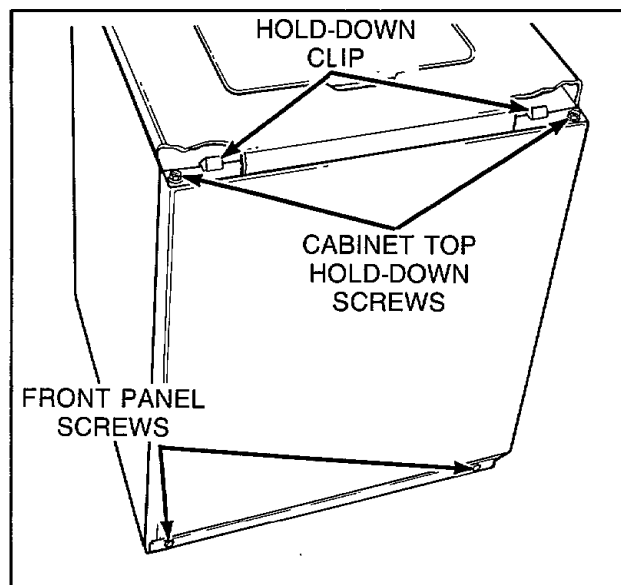

Figure 8
- Remove two screws from bottom edge of front panel, *Figure 8*.
- Pull bottom of panel away from washer until hold-down clips (located on top flange of panel) disengage from slots in cabinet top, *Figure 8*.
- Remove two cabinet top hold-down screws, *Figure 8*.